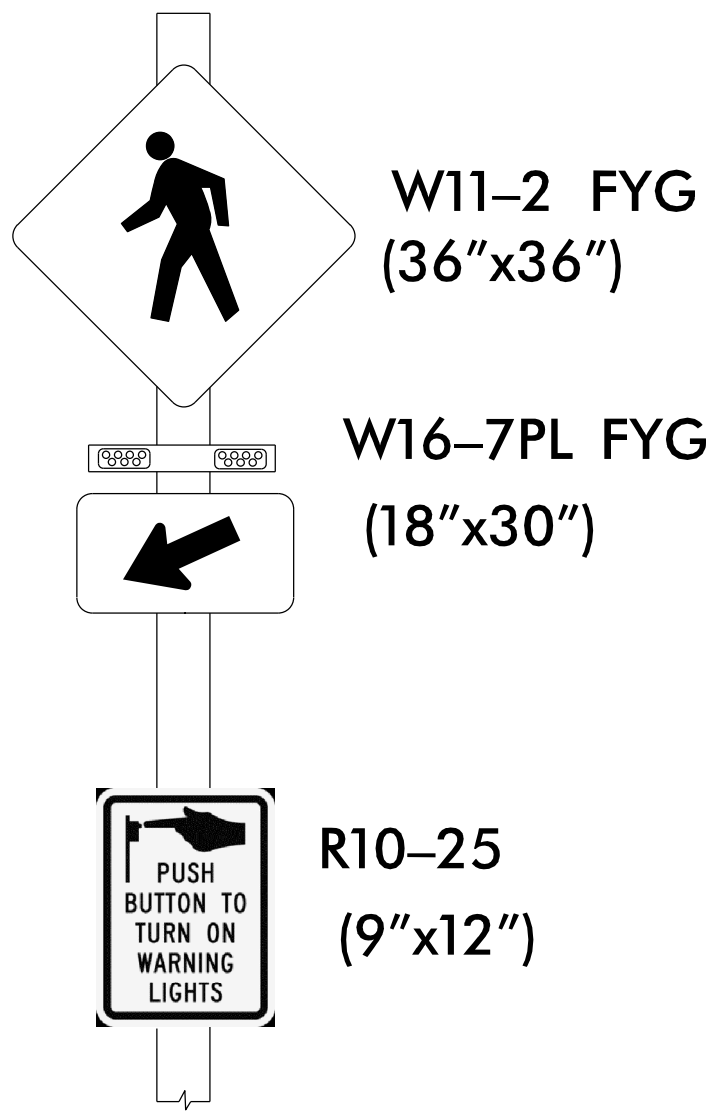

FIGURE 1 - SIGN B
- (A) Pedestrian Warning Sign (W11-2) w/ "AHEAD" Plaque (W16-9P)
- (B) RRFB w/ Left Arrow & "PUSH BUTTON TO TURN ON WARNING LIGHTS" Sign (See Fig. 1)